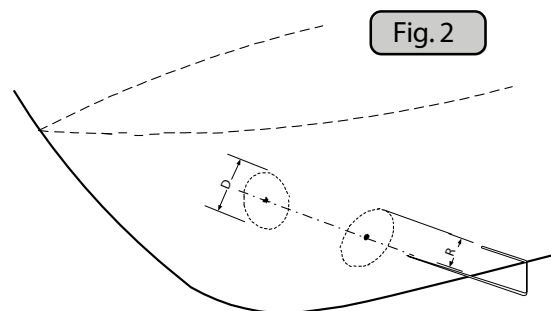

Fig. 2
2. Bend a steel bar as shown with the "tip" bent back set to the tunnel radius. Ensure the length of the bar runs through both holes. Mark the circle for the tunnel opening (outside diameter of the tunnel). Cut the hole with a jigsaw (**Fig. 2**).
Follow the same method if making the deflector/ spoiler (**Fig. 2**).